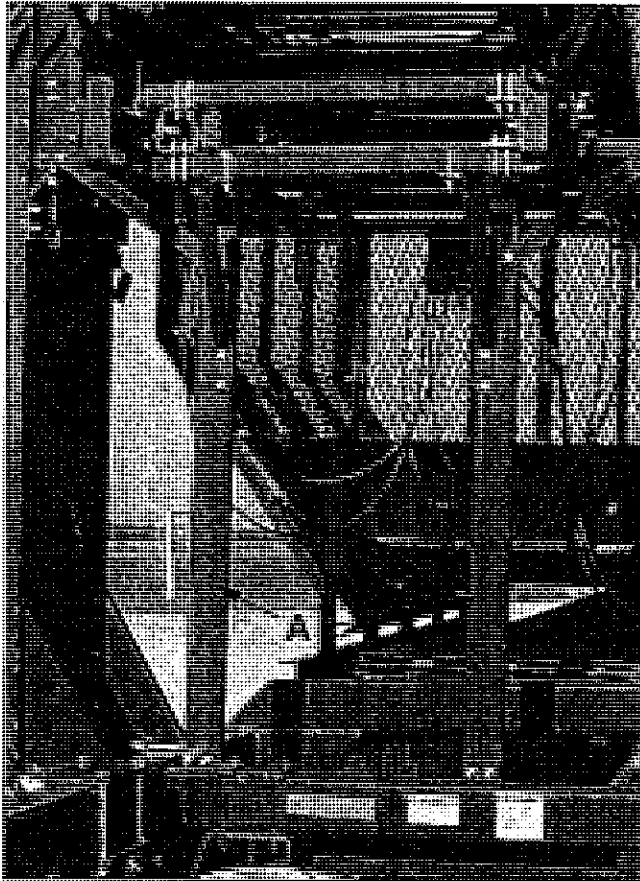

Figure 3.07: Track Support Tubes. (A) - Support Tubes.
Attach two (2) 2" x 4" track support tubes (A) with the capped end up to elevator track and so the holes are oriented as shown. See Figure 3.07, make sure to place the upper and lower end to the tank side of the 2" x 2" tube and lower brackets respectively. Use the four (4) 1/2" x 4-3/4" hex bolts on top, four (4) 1/2" x 3-1/2" hex bolts on bottom, eight (8) 1/2" lock washers and eight (8) 1/2" nuts provided to secure tubes in place.